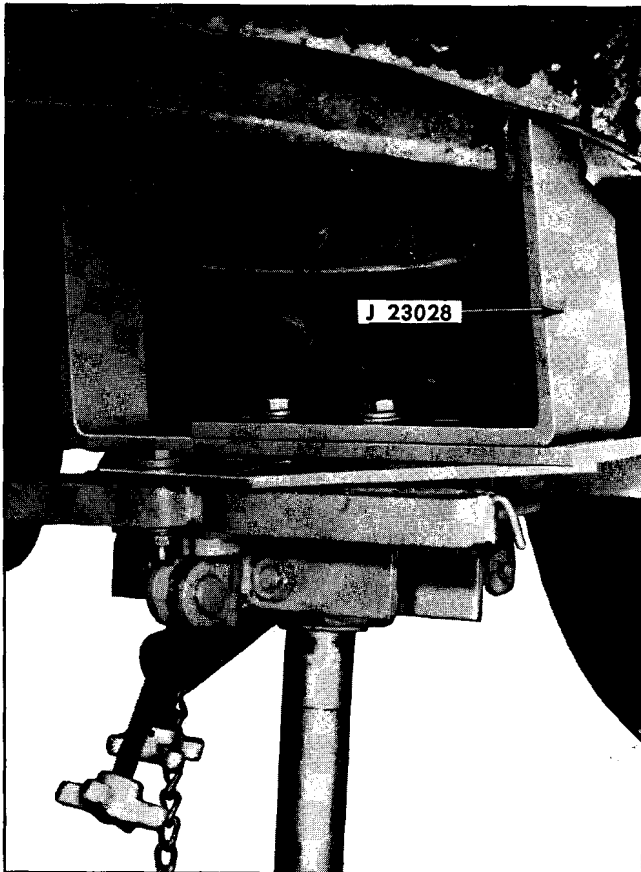

Fig. 3-21 Removing Coil Spring with J 23028
4. Position hydraulic transmission jack with adjustable spring removal tool J 23028 bolted onto the jack under the two lower control arm bushings (Fig. 3-21).